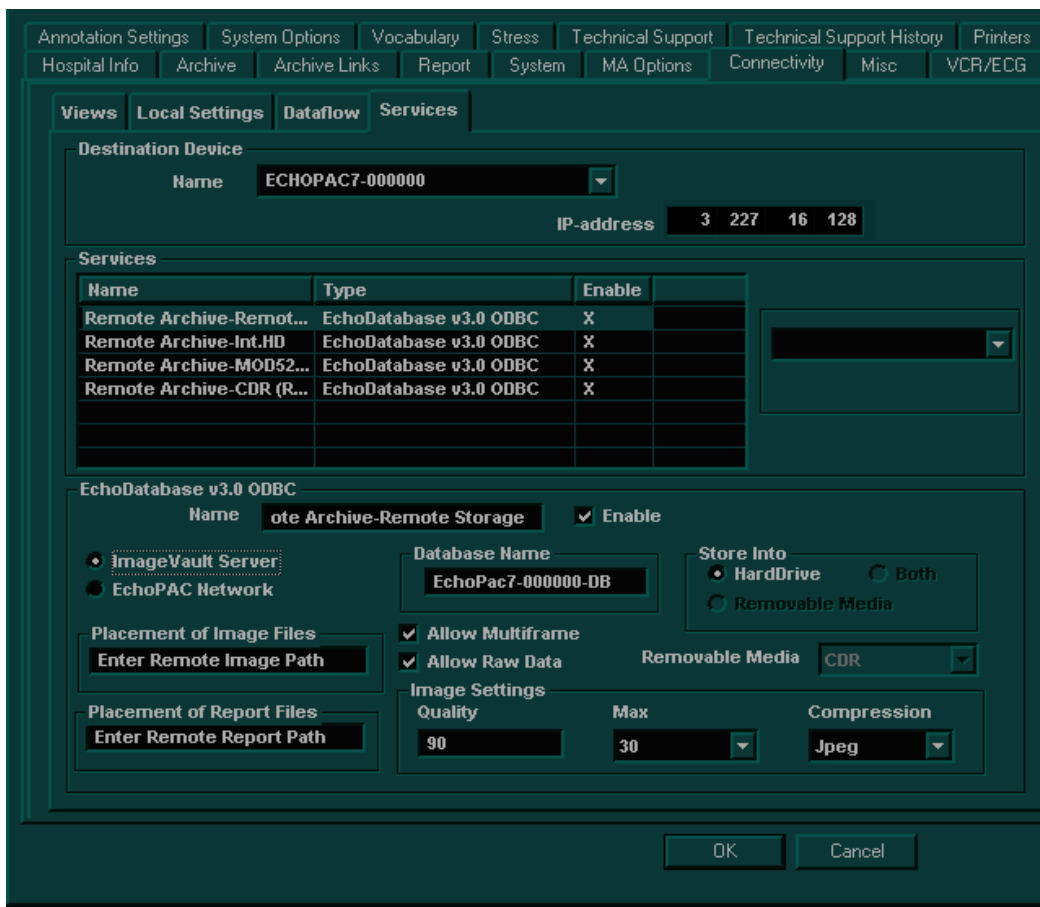

Figure 3-48 Services Tab - Image Vault Server Expanded
If *Image Vault Server* is required, make sure that the **Image Vault Server** checkbox is *selected*, as shown in Figure 3-48 below, then proceed as follows:
- d.) *Select* the **Allow Multiframe** and/or **Allow Raw Data** checkboxes, as required. (It is recommended to leave both checkboxes activated, as shown in Figure 3-48 below).